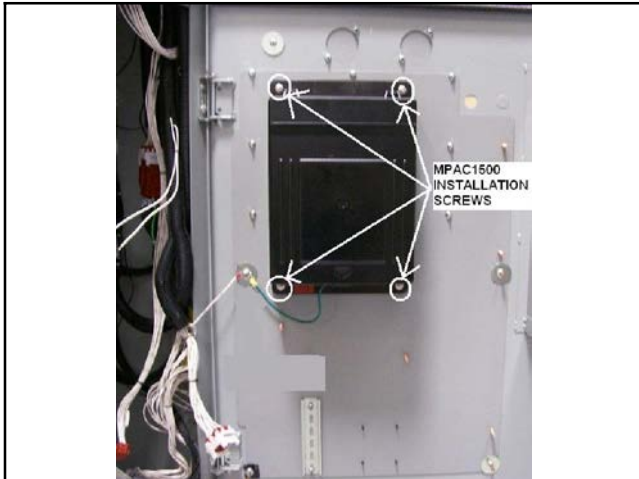

Figure 27 Controller Assembly Installation
18. Install the MPAC 1500 controller assembly (GM46733-1) onto the conversion kit mounting plate using four nuts (X-6210-2). See Figure 27.